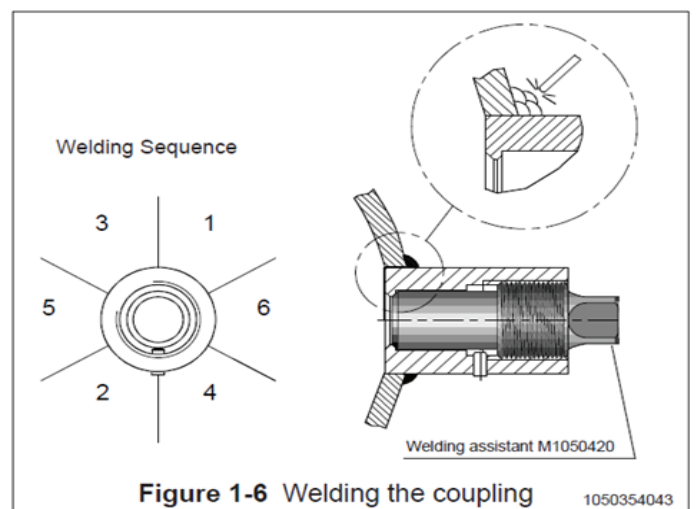

Figure 1-6 Welding the coupling
- Place the coupling in the mounting hole as shown in Fig. 1-6. Then weld with several runs so as to prevent the coupling's oval distortion and tightness problems.